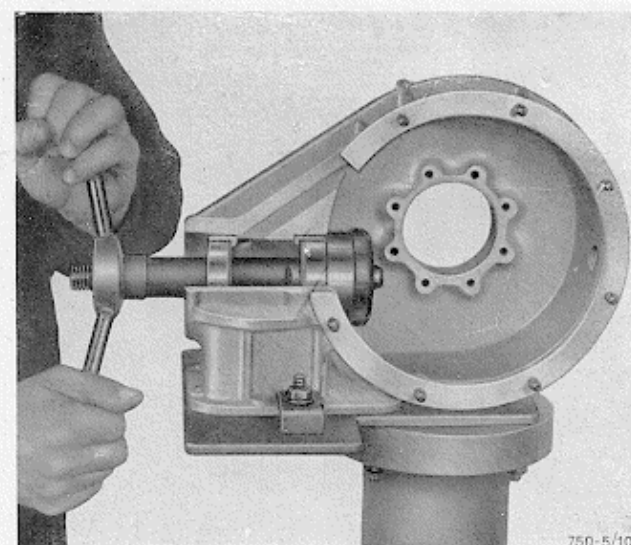
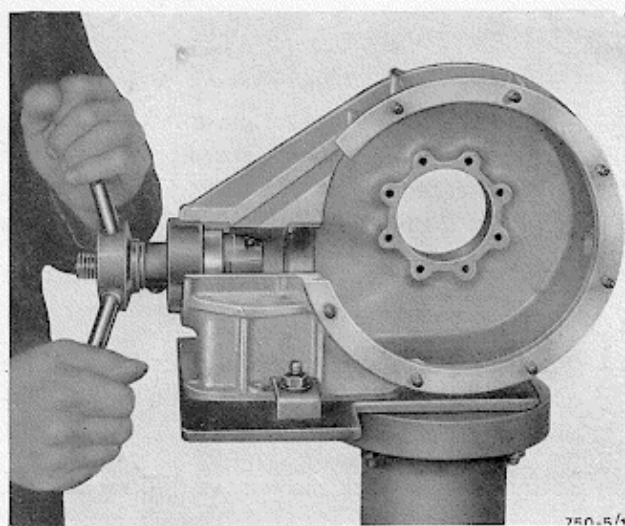

Fig. 10 - Withdrawal of the outer race of the rear bevel pinion bearing, using tool 6121.04.015
Fig. 11 - Withdrawal of the outer race of the front bevel pinion bearing, using tool 6121.12.057
- withdraw the outer race of the rear bearing with tool 6121.04.015 (Fig. 10) and the outer race of the front bearing with tool 6121.12.057 (Fig. 11).